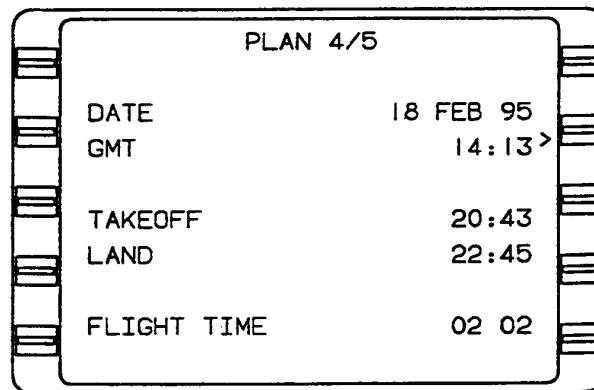

Figure 3A-41. Plan 4/5 Page, Date/GMT
(4) *Plan 4/5 Page, Date/GMT*. Refer to Figure 3A-41.